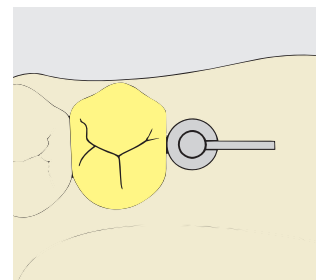

Fig. 4
The bottom edge of the extension indicates the predicted height of the female part (A), the bottom edge of the paralleling mandrel is 1 mm shorter than the original female which can be positioned as low as possible and its underside adapted to the contours of the gingivae. The extension also indicates the predicted length and position of the original female when placing the male (Figure 4). Invest and cast. To ensure that the cast male is sufficiently strong, the alloy must exhibit an 0.2% proof stress of at least 500 N/mm². Once the male has been devested, it must not be sandblasted (dimensional changes). Clean ultrasonically. Check that the ball joint functions properly on the master model.